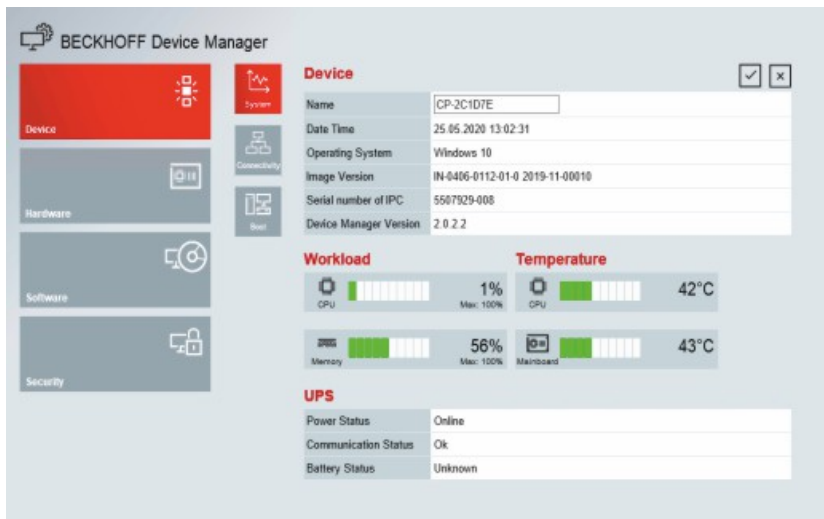

Fig. 17: Beckhoff Device Manager – Start page
2. Lift the PC far enough so that the fastening screws slip into the keyholes (see fig. 17).